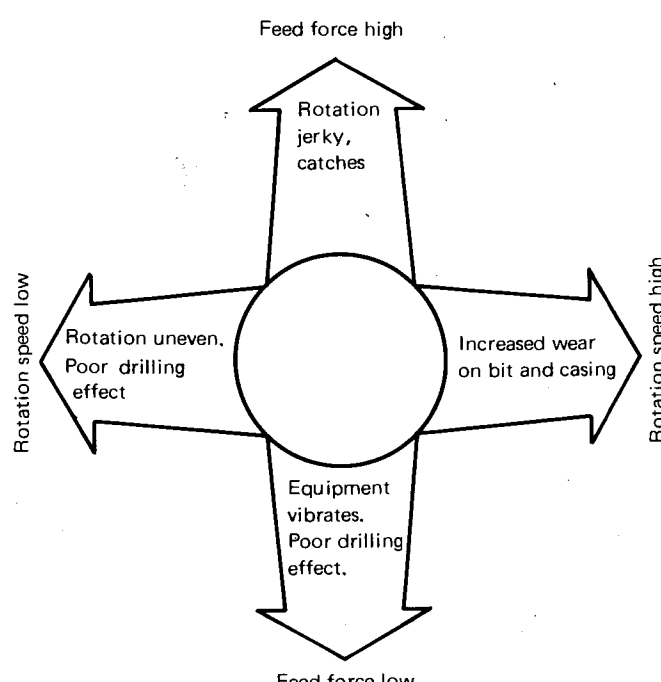

Fig. 15. When the equipment runs evenly and smoothly the feed force and rotation speed are correctly set
4.5. Feed force and rotation speed (Fig. 15)